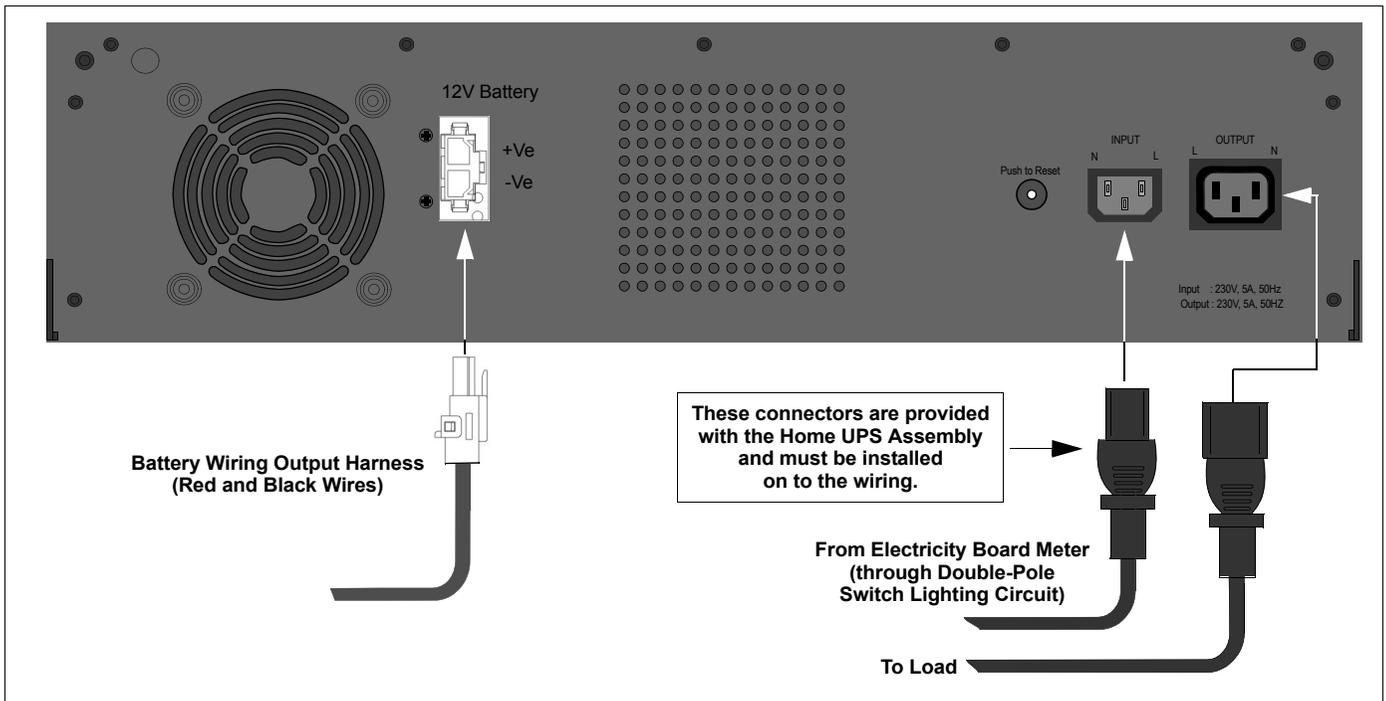
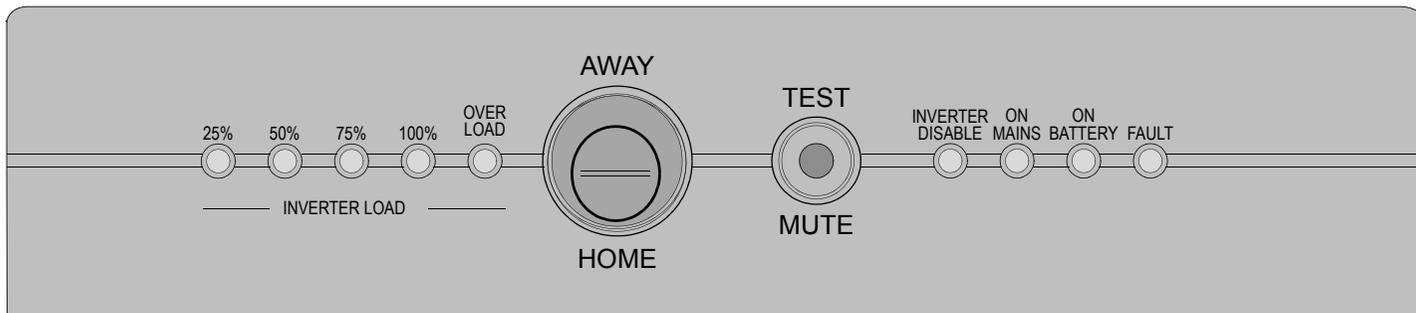

Figure 3. Home UPS Connections
Figure 4. Home UPS Front Panel Controls and Indicators
Figure 3. Home UPS Connections	3
Figure 4. Home UPS Front Panel Controls and Indicators	4
Connect the battery wiring harness from the battery to the rear panel input connector of the **Home UPS** (Figure 3) marked **12V Battery**. Once the home wiring is complete and the battery is connected to the **Home UPS** Assembly, turn on power at the Electricity Board Meter and then at the Double-Pole Switch Lighting Circuit. The **Home UPS** will automatically turn on. Ensure **AWAY/HOME** switch (Figure 4) in **HOME** position.
**AWAY/HOME** - (also known as the holiday mode switch) - In the **HOME** position, this two-position rocker switch (Figure 4) sets the **Home UPS** so that it will switch to battery output when there is a utility power outage.
**Home UPS Indicators** - The **Home UPS** provides light emitting diode (LED) indicators (Figure 4) to show the operational condition of the **Home UPS** and batteries. Indicators consist of **Inverter Load Status** (**25%**, **50%**, **75%**, **100%**, and **OVER LOAD**). Other indicators consist of: **INVERTER DISABLE**, **ON MAINS**, **ON BATTERY**, and **FAULT**). Using Table 1, determine the condition of the **Home UPS** and battery.